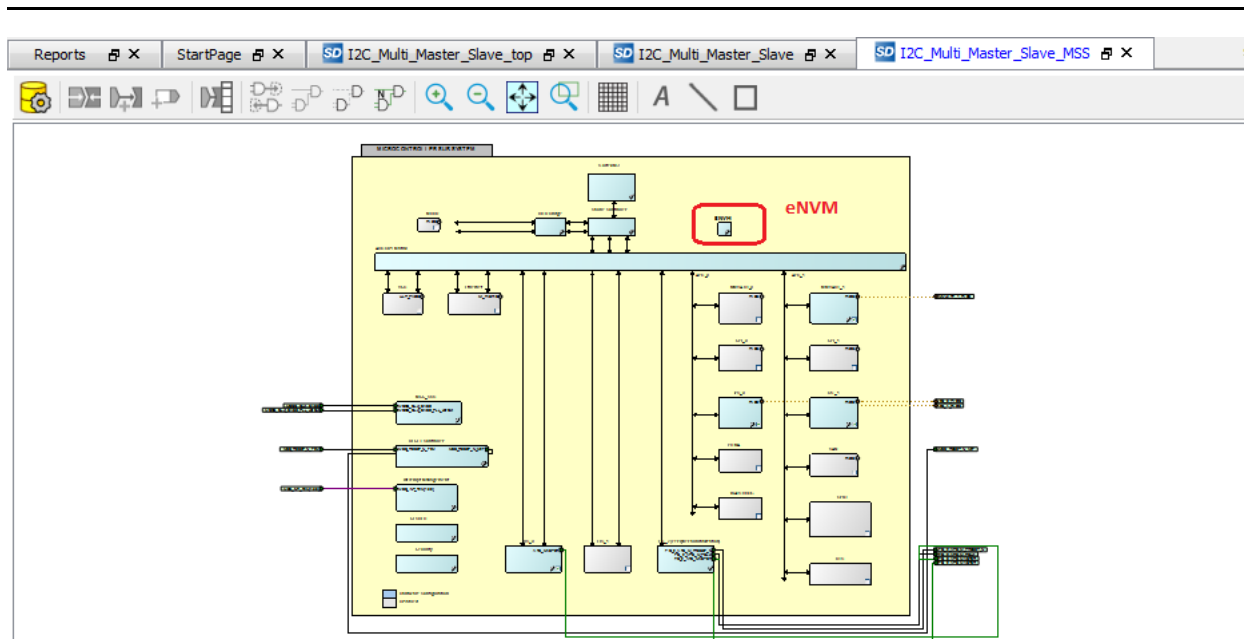

Figure 27 • MSS Component
2. Double-click I2C_Multi_Master_Slave_MSS_0 instance. I2C_Multi_Master_Slave_MSS is opened, as shown in Figure 27.